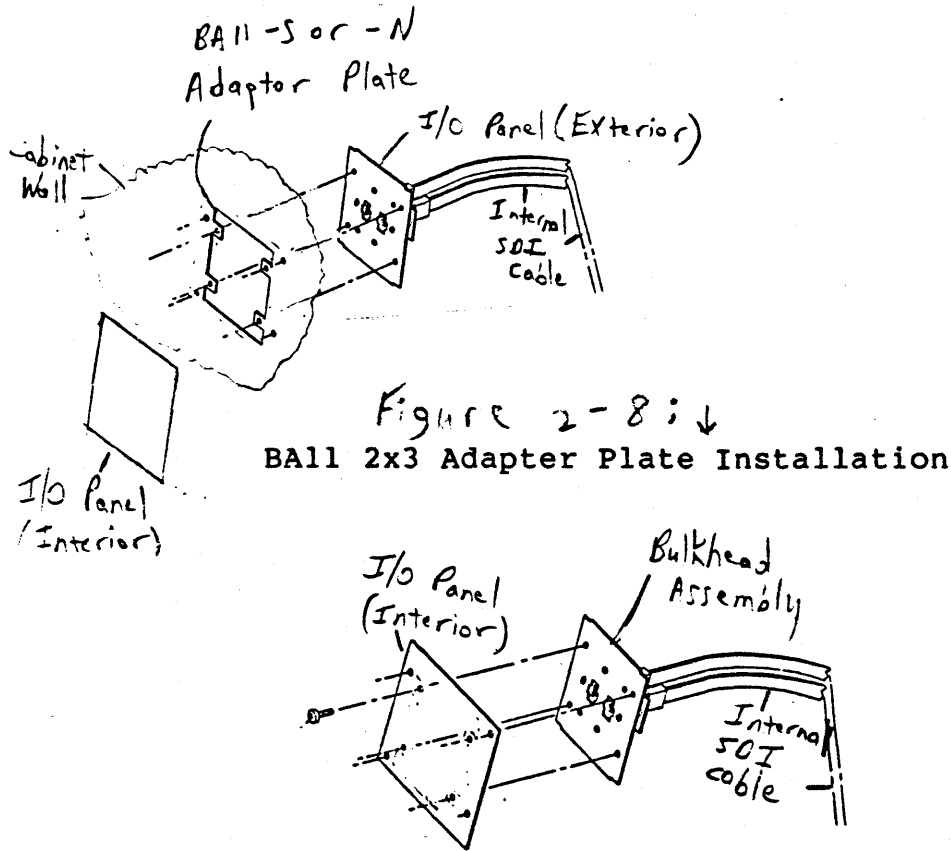

Figure 2-9: Bulkhead to I/O Panel Attachment
- Using four sem screws, attach the bulkhead assembly to the I/O panel. Make sure the EVEN marking is at the top or left as viewed from the outside of the I/O panel. Refer to Figure 2-9.